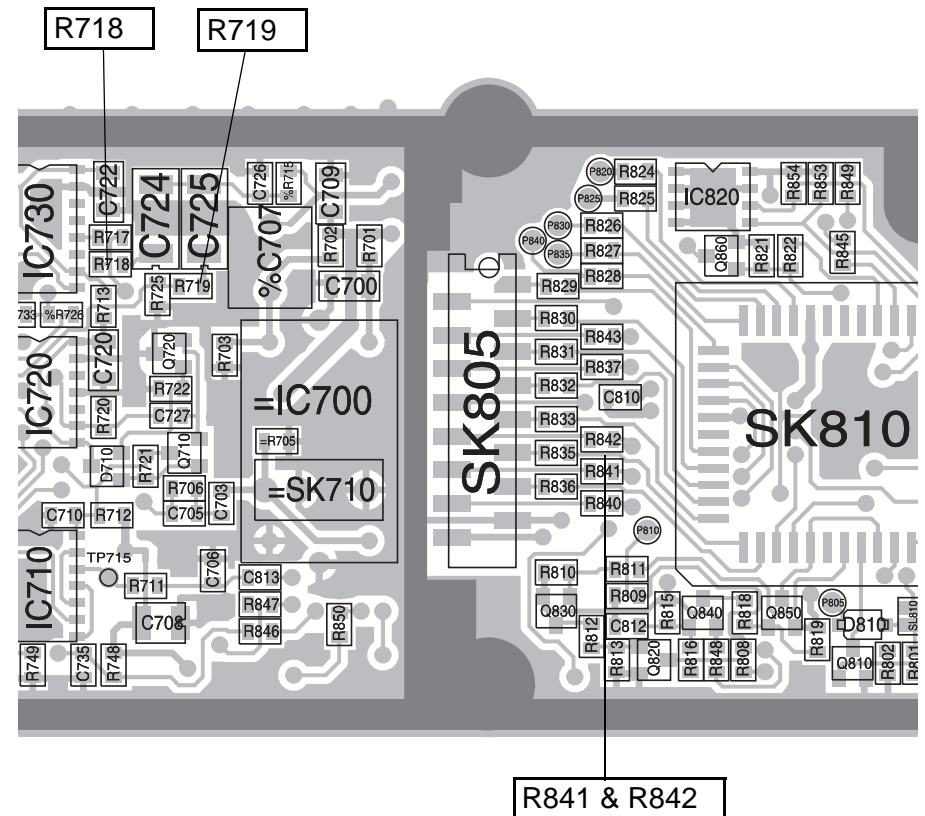

Figure 3 T800 Transmitter Microncontroller and Synthesiser Compartments
5. Remove R718 and R719 from the synthesiser compartment (shown in Figure 3).
6. Remove R841 and R842 (SMD) from the microcontroller compartment (shown in Figure 3) to disconnect the appropriate lines from the microcontroller.